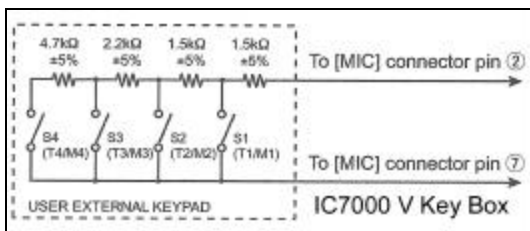

Figure 1 - IC7000 VK Box Schematic
**Fig 1. Wanda Zarown N9QDK shows off her new ride. Watch out on the sidewalks! Wanda's son Lee Harvey plans to install a Chevy 350 V-8 crate motor the next time Wanda visits him at his trailer.**